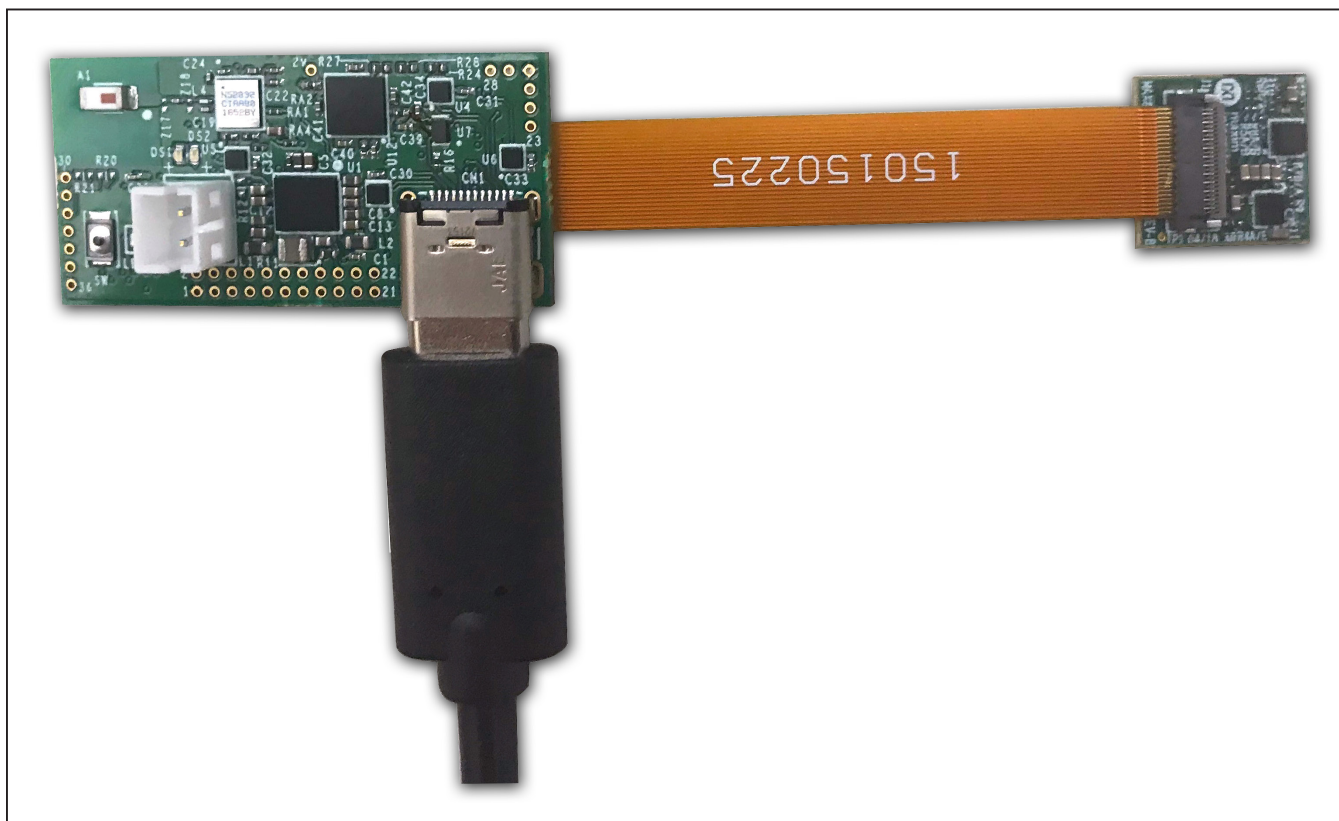
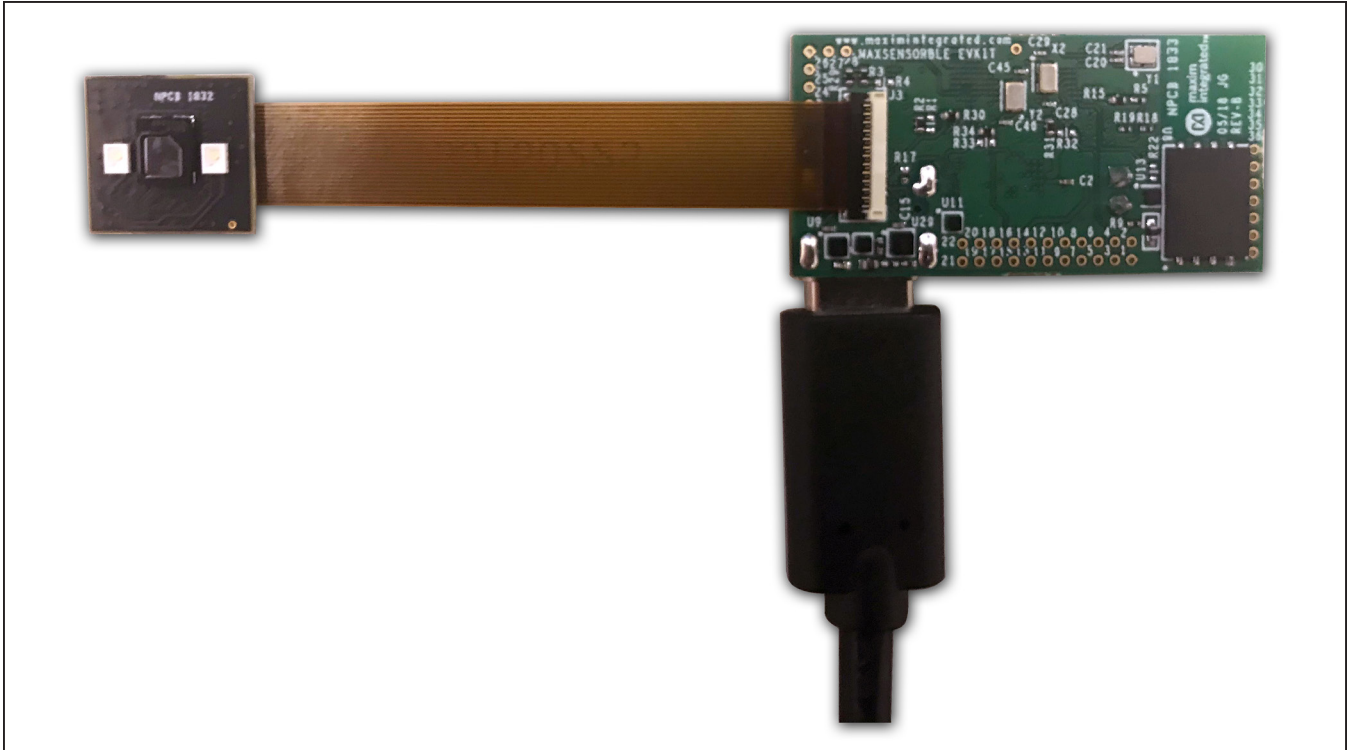
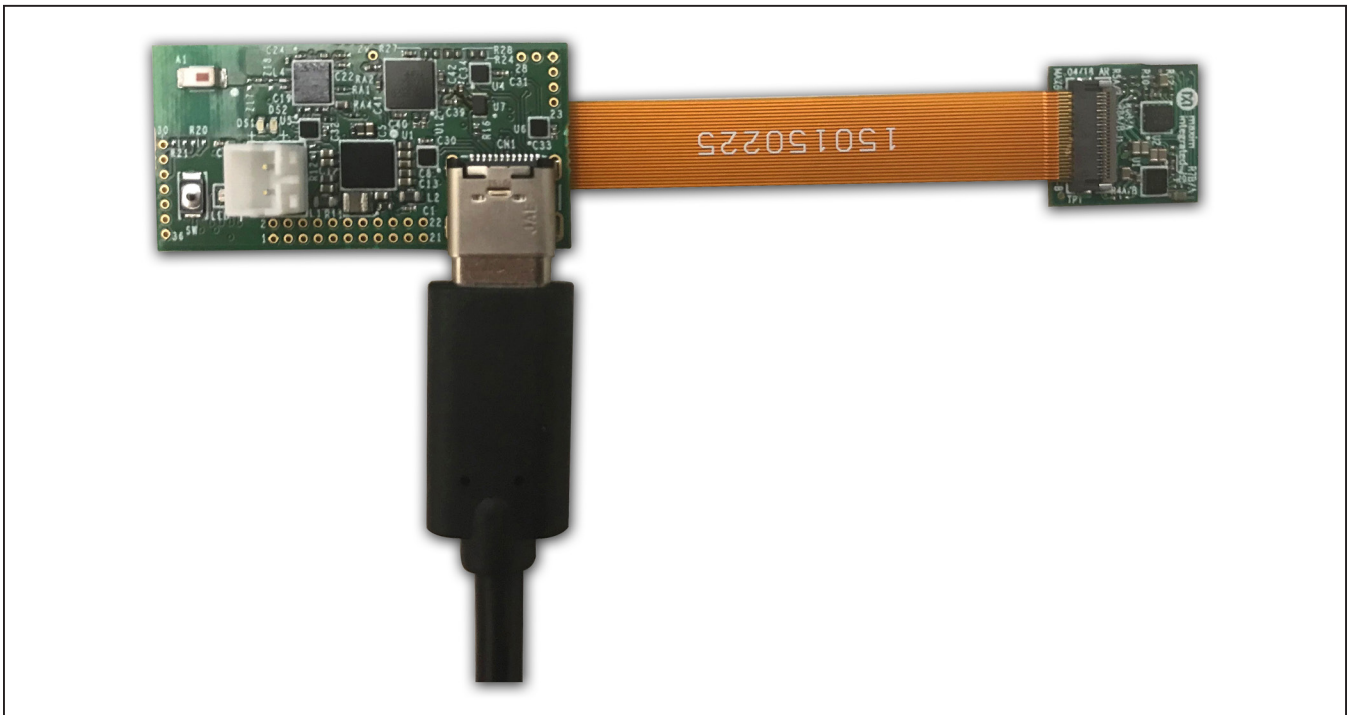
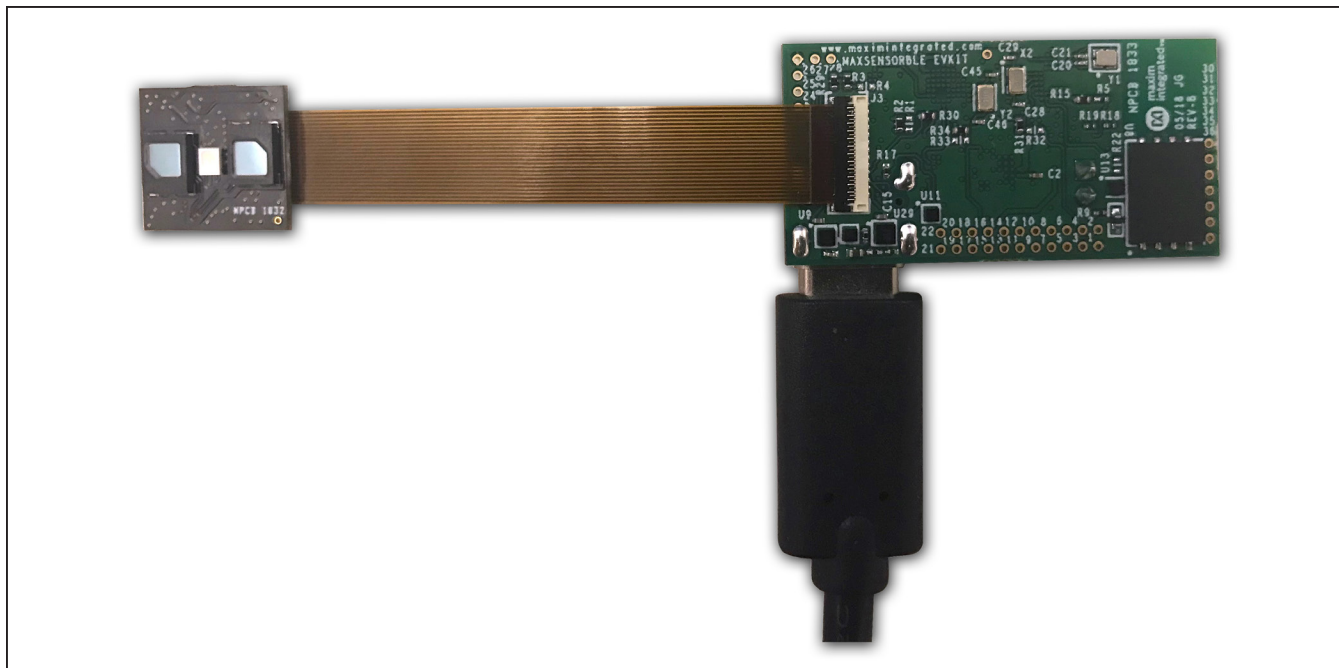

Figure 9. Hardware Setup (MAX86140 EVSYS Micro-PCB)
Figure 10. Hardware Setup (MAX86140 EVSYS Sensor PCB)
Figure 11. Hardware Setup (MAX86141 EVSYS Micro PCB)
Figure 12. Hardware Setup (MAX86141 EVSYS Sensor PCB)
- 5) If the MAX86140 EVSYS flex cable is not already connecting the Data Acquisition EVSYS Micro PCB to the MAX86140 or MAX86141 Sensor PCB, then please connect the two PCBs with the cable as shown in Figure 9 and Figure 10 or Figure 11 and Figure 12.
- 6) Connect USB-C cable or LiPo Battery to the Data Acquisition Board to power up the EVSYS. If LiPo battery is used, press the power switch (SW) to turn on/off the device. When powered on, the green LED will toggle.
- 7) After that, start the MAX86140 EVSYS GUI program. "Connect Device" will appear, choose your device and press "Connect" as shown in Figure 11.
- 8) The GUI will then be launched as shown in Figure 12.